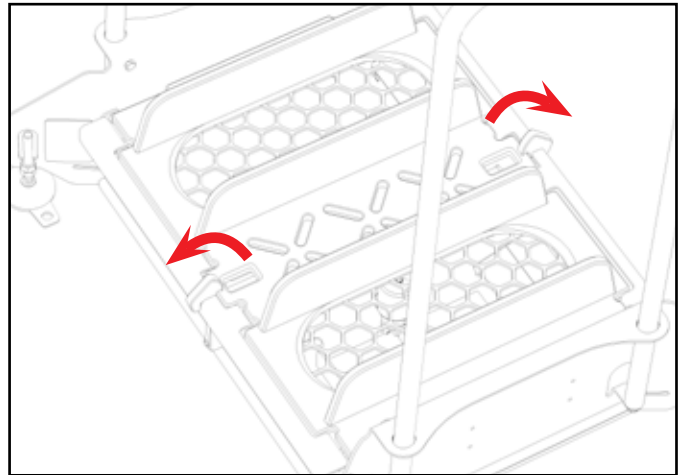

Fig. 7.1: Releasing foot plate latches
1. To remove the base plate, pull back on the plastic latch to free the plate [Figure 7.1].
4. To re-inset, orient as shown [Figure 7.1] and slide past plastic latches until locked into position.